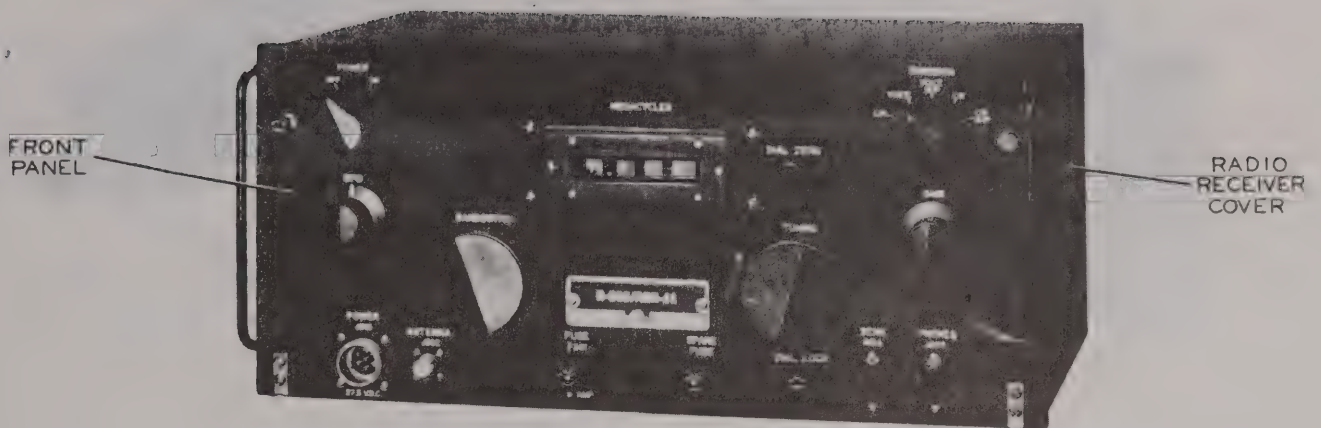

Figure 1-2. Radio Receiver R-648/ARR-41, Front Panel
**1-18. RADIO RECEIVER R-648/ARR-41.** (Refer to figures 1-2 and 1-3.) Radio Receiver R-648/ARR-41